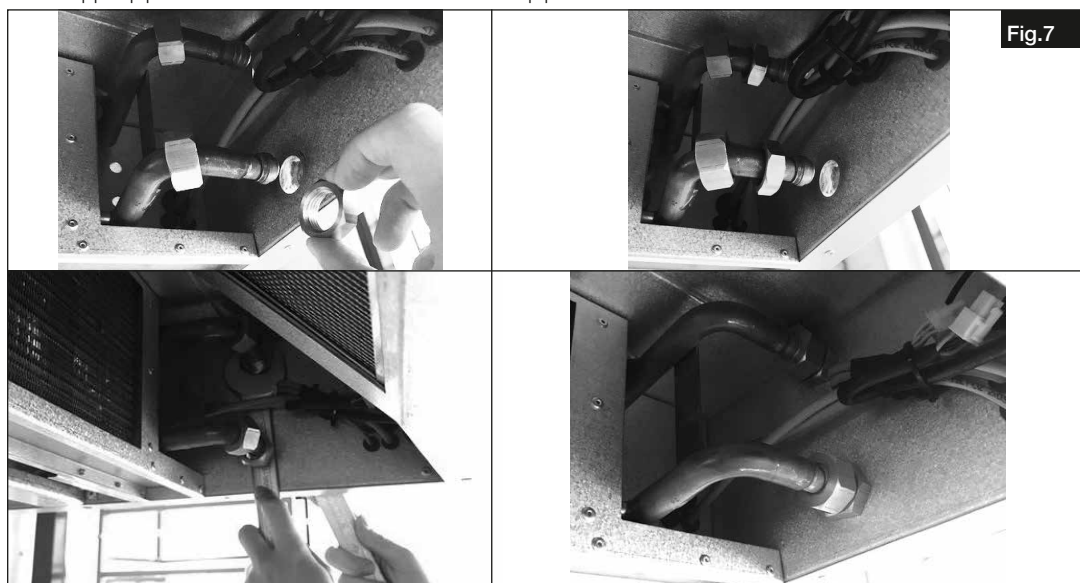

Fig.7
6. Connect feed and return from heating register to the pipe fitting, see Fig.7 (use the counter-clockwise tightening method to avoid damage).